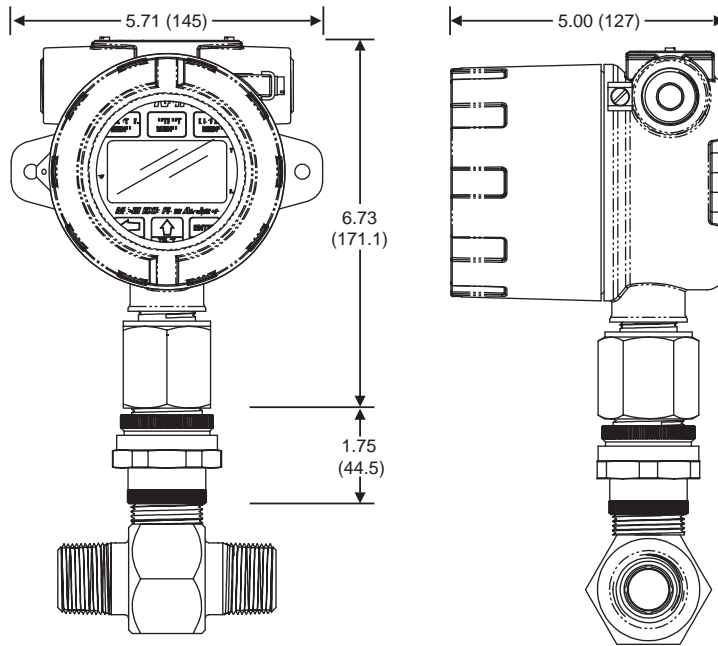
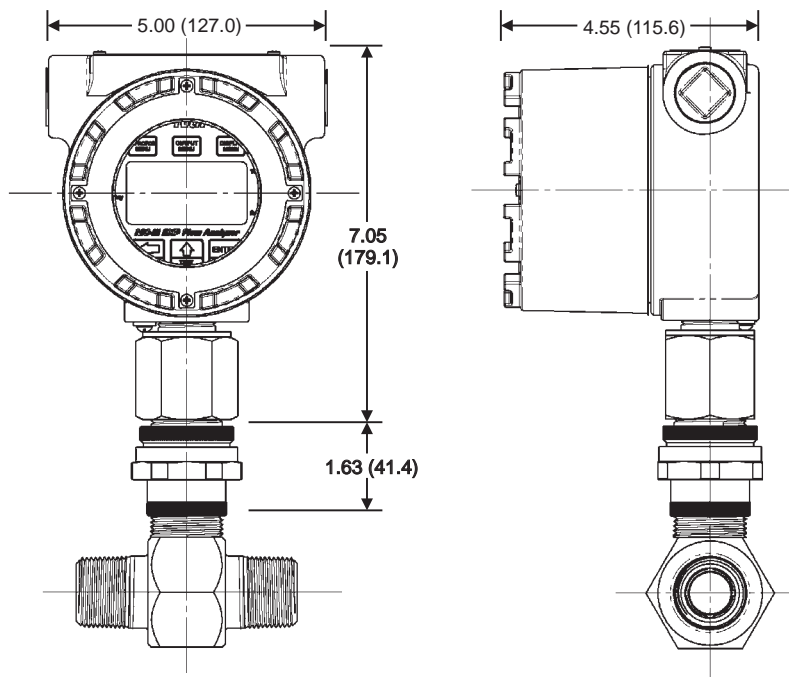
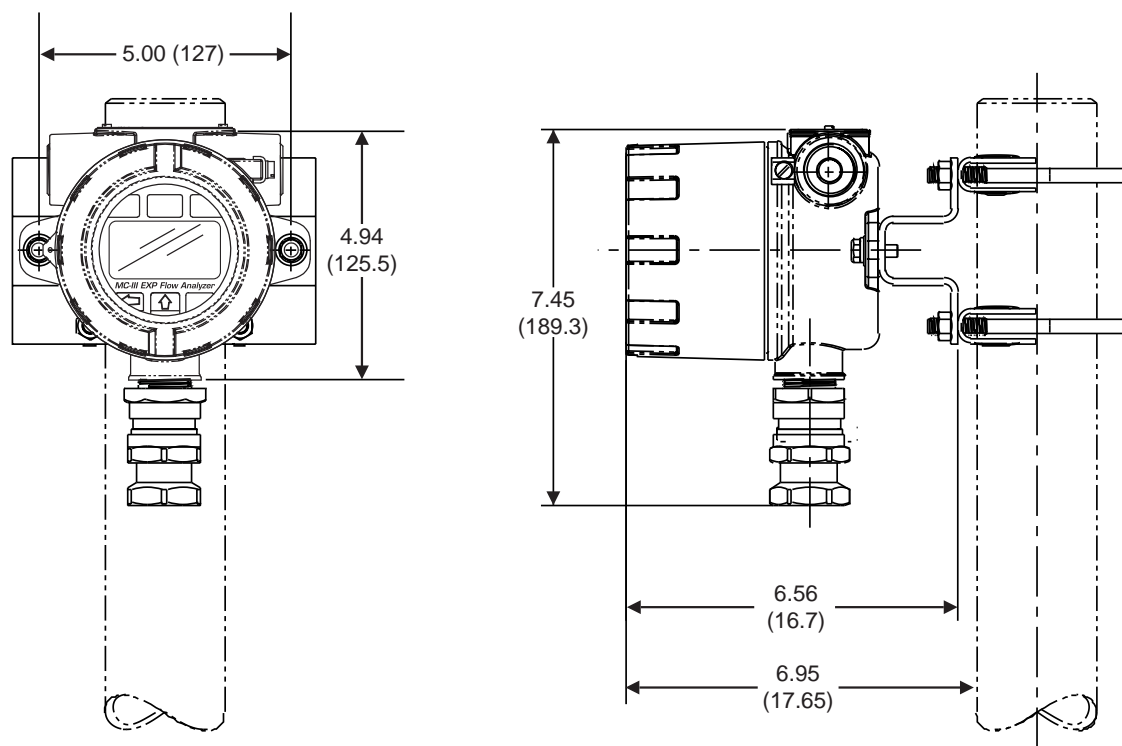

Figure 2.5—Direct mount (standard MC-III EXP enclosure) to NuFlo turbine meter with pipe reducer and union (CSA)
Figure 2.6—Direct mount (alternate MC-III EXP enclosure) to NuFlo turbine meter with pipe reducer and
Figure 2.7—Remote mount on a 2-in. pole using a NuFlo hardware kit (Part No. 9A-30028004)
The CSA-approved MC-III EXP is available in either of two enclosure styles. The standard enclosure shown on the cover of this manual and in Figure 2.5, page 18, features integral mounting holes on either side of the enclosure, allowing it to be mounted to a flat bulkhead.
The alternate enclosure (Figure 2.6, page 18) does not have the bulkhead mounting holes on the sides. Another distinguishing feature is the bright red ring that frames the display window. The alternate enclosure is slightly taller than the standard enclosure.
The MC-III EXP may be mounted directly to a flowmeter, or mounted remotely on a pole and connected to a flowmeter with explosionproof signal cable. The type of meter mount required varies with the meter in use. See Figure 2.5 through Figure 2.7 for installation dimensions.
- Mount the device to a NuFlo turbine meter or a Barton 7000 Series turbine meter. A CSA-approved pipe reducer and union connector is required (Figure 2.5, page 18). Figure 2.6, page 18, shows the same installation with the alternate MC-III enclosure.
- Remote-mount the device to a 2-in. pole using a NuFlo hardware kit (Figure 2.7, page 19). Pole mounting may be preferred where limited space or pipe vibration prohibits direct-mount installation. For best results, install the device as near as possible to the meter to minimize the length of explosionproof signal cable that must be used for communications. Stranded, shielded cable is recommended.